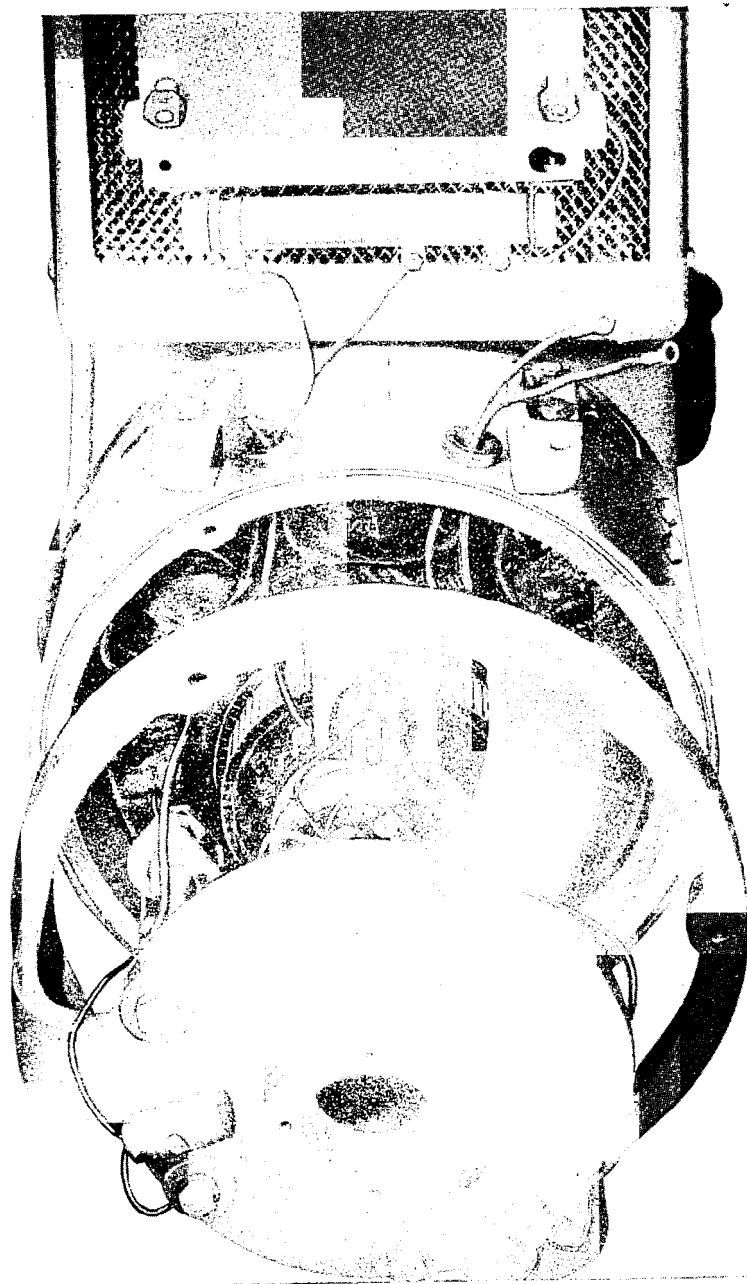

Figure 28
3. Remove the cap screws holding the brush holder bracket to the generator frame, and pull the bracket off (Fig. 28).